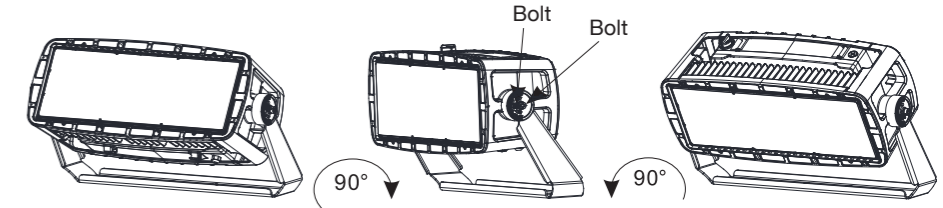

Figure 3
- Set the up/down orientation by loosening the (2) bolts on each side of the fixture where the yoke mount attaches to the fixture and rotate the fixture up or down then retorque the bolts to 22.2 ft. lbs. (Fig. 3)